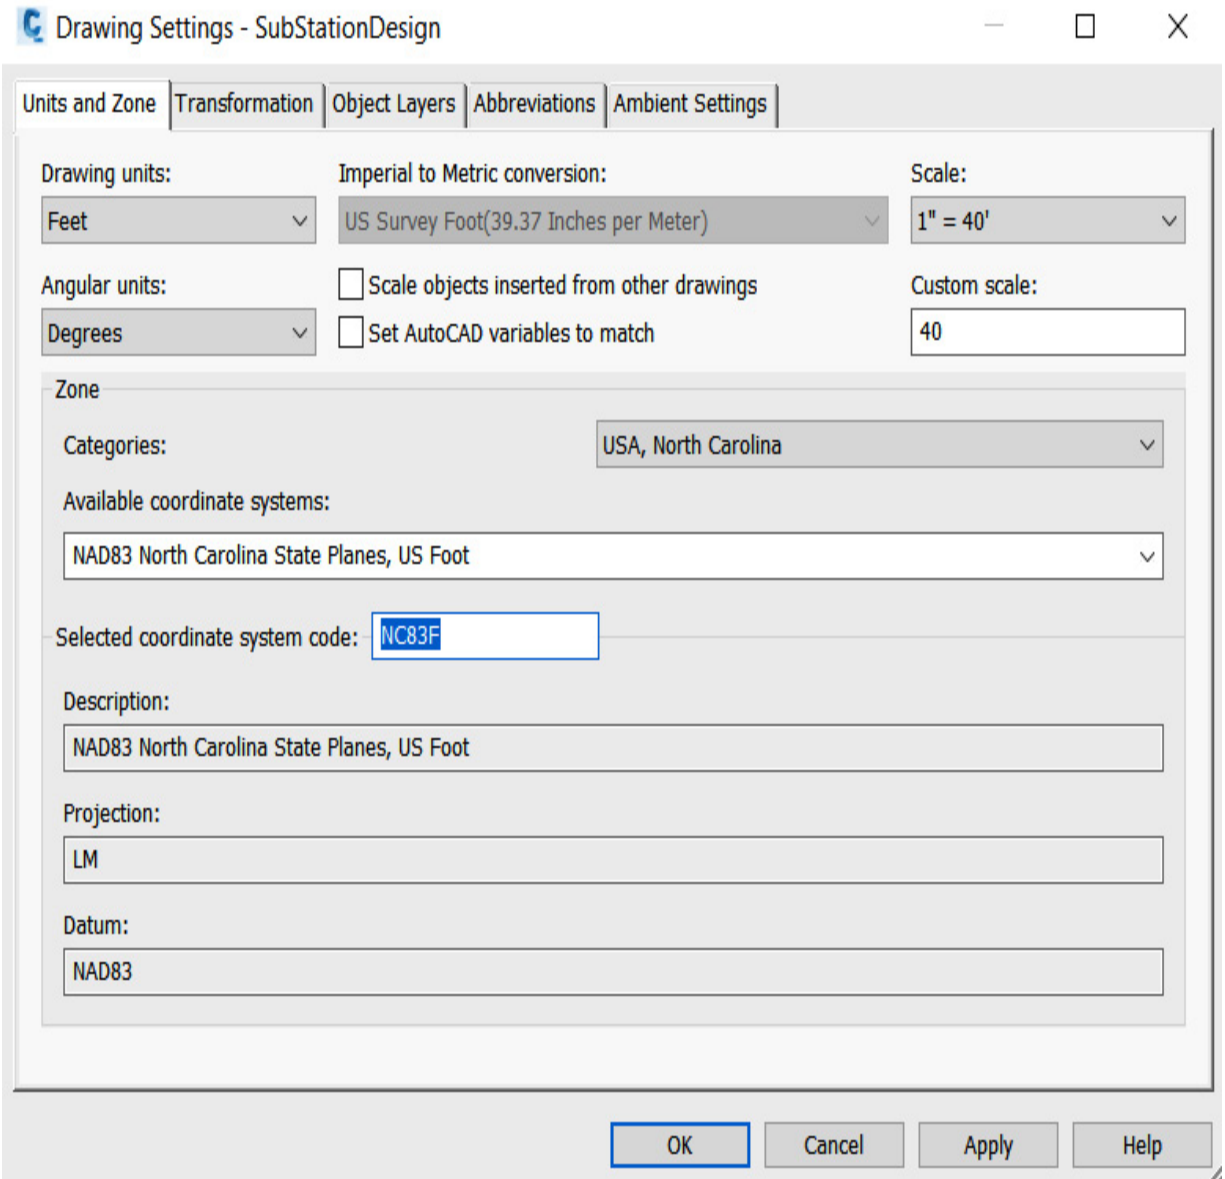

Figure 2.4 – Drawing Settings – Units and Zone tab
**Settings...** option. In the **Drawing Settings** dialog box, within the **Units and Zone** tab, you can set your drawing units, the anticipated scale of your sheets (this can be changed at any time throughout your design), along with the actual projection of your survey and/or design (refer to *Figure 2.4*).